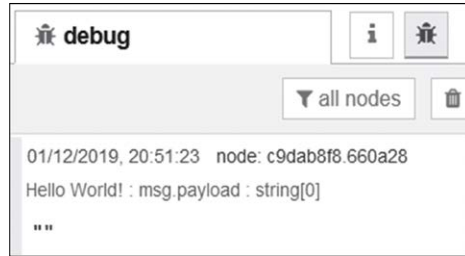

Figure 4.8 Display the output at debug window
- Click the **inject** nodes button, which is the small square coming out from the left-hand side of the node. Clicking the button will inject the message into the flow and to the debug node. The output should be displayed on the debug window as shown in Figure 4.8